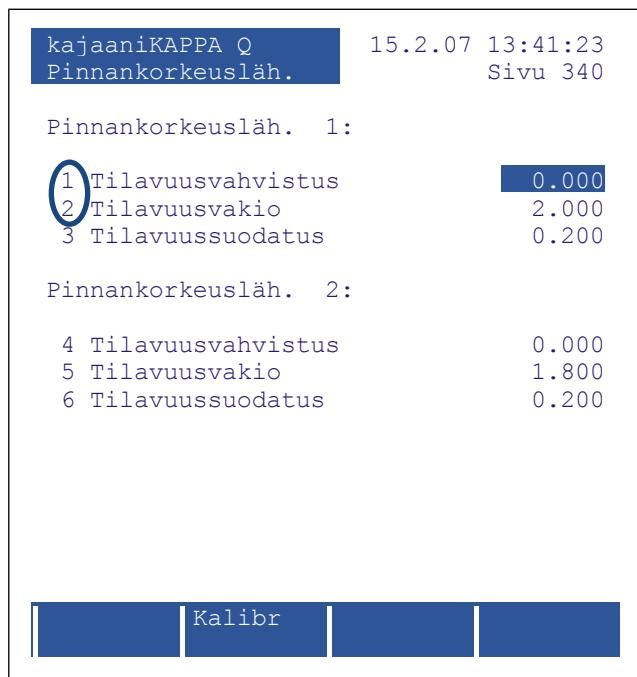

Fig. 33. "Level transmitter" page.
2. Go to "Calibr" [F5] -> "Level transmitter" (Fig. 33).